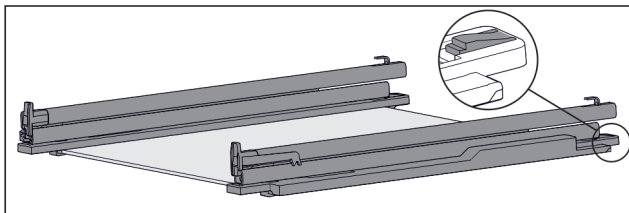

Fig. 149 Glass shelf with rails and retaining parts
- ▶ Press down retaining part at the rear (see Fig. 149) and at the same time push the rail back.